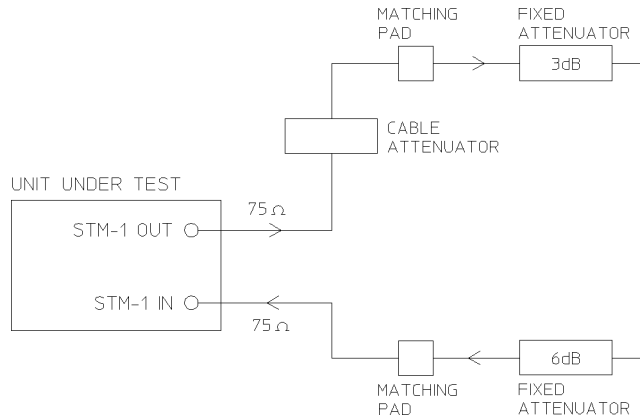

Figure 3-54
3. Connect up the equipment as shown in Figure 3-54. If Option A3L [A3M] or A3V [A3W] or A3N [A3P] is fitted connect both 6 dB attenuators between the Cable Attenuator and STMN-1 IN.